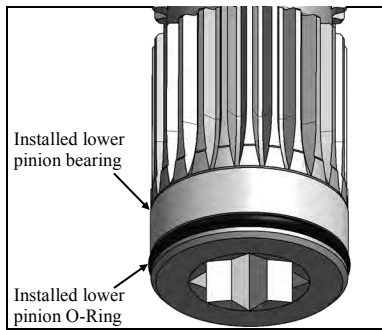

Fig. 9.1
- a. Pinion: Install lower pinion bearing and lower pinion O-Ring. (Fig. 9.1)